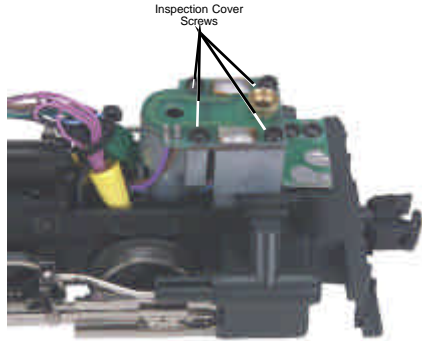

Figure 14
1. Once the boiler has been removed, locate the smoke unit assembly (see Figure 14).
2. Use a phillips head screwdriver to remove the inspection cover screws as seen in Figure 14.